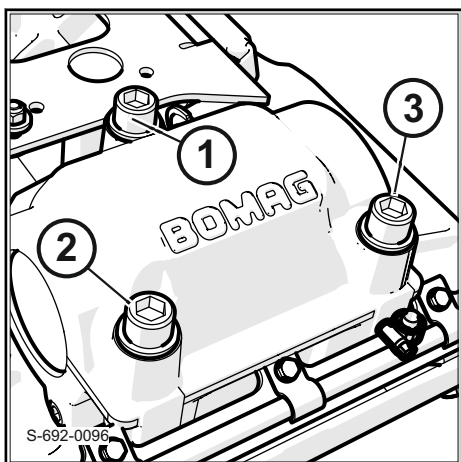

Fig. 86
4. Tighten the screw (1) ↪ Fig. 86.